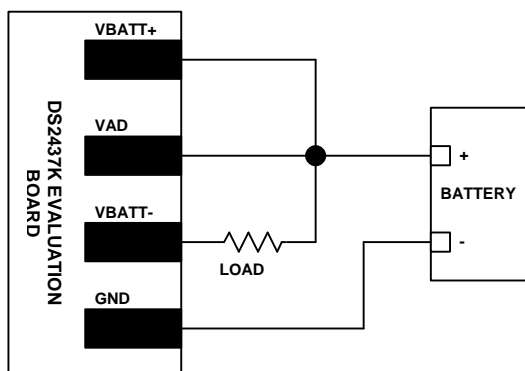
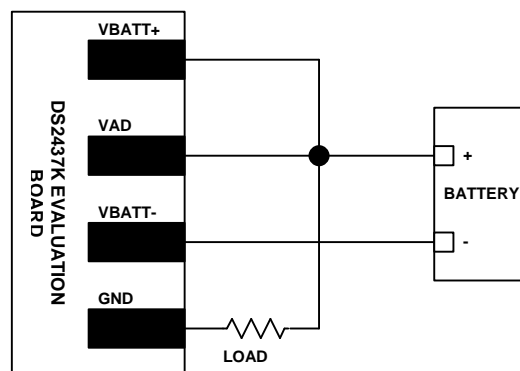

Figure 1a Charging
Fig 1b Discharging
The evaluation board can be connected to a power supply and an external load in configurations that simulate either charging or discharging for the DS2437. Figure 1a below illustrates the charging configuration while Figure 1b shows the discharging configuration.
The Demo Mode of the Evaluation Kit is set up to display the basic functionality of the DS2437 and is the default mode of the kit. Before starting the demonstration, connect the evaluation board to a power supply and a load as shown in Figure 1a or Figure 1b. Also, be sure that the evaluation board is connected to the DS9097U through the RJ-11 cable and that the DS9097U is plugged into an unused serial port on the computer. Finally, verify that jumpers JMP4 through JMP7 are configured as needed. To begin the demonstration, fill in the battery capacity (C Rate) and Maximum Battery Voltage fields on the Demo Screen (see Figure 2 below).
**End-of-Charge and Disconnect Timestamps.** To demonstrate the DS2437's end-of-charge timestamp, wire the evaluation board in the charging configuration shown in Figure 1a, start the demonstration, and then disconnect one side of the load resistor. As soon as this is done, the end-of-charge timestamp register updates to reflect the end-of-charge time. To demonstrate the disconnect timestamp feature, simply unplug the RJ-11 cable from the evaluation board. During the time the cable is unplugged, the displayed values of the real-time clock and both timestamp registers become invalid because the software